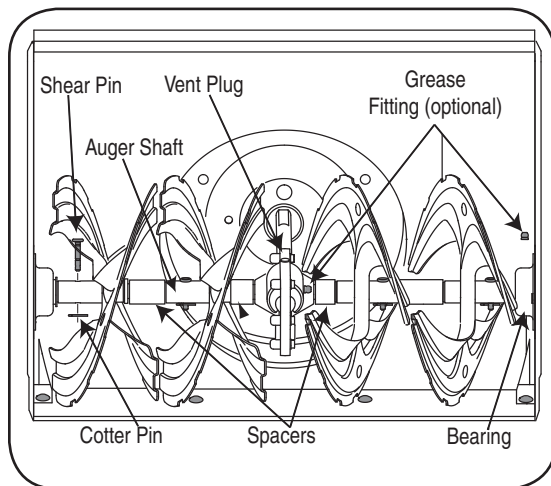

Figure 21
At least once a season, remove the shear pins on auger shaft. Spray lubricant inside shaft, around the spacers. Also lubricate the flange bearings found at either end of the shaft. See Figure 21.
- The augers are secured to the spiral shaft with two shear pins and cotter pins. If the auger should strike a foreign object or ice jam, the snow thrower is designed so that the pins may shear. See Figure 21.